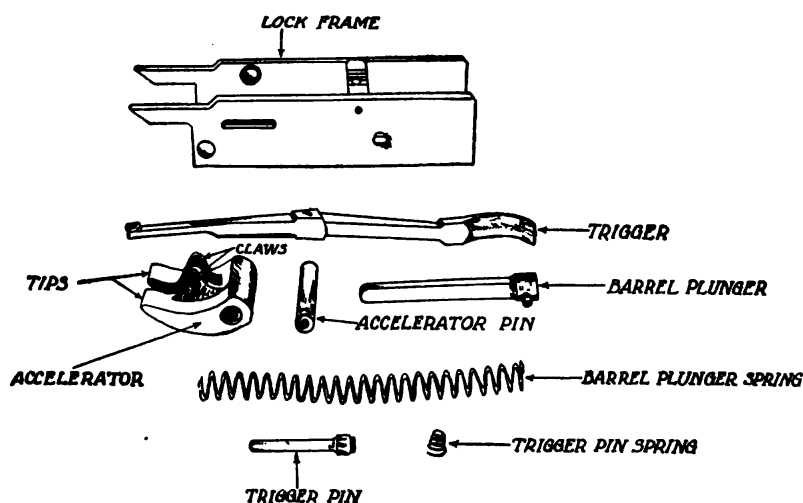

FIGURE 125.—Lock frame group.
**135. Detailed disassembly of lock frame (fig. 125).**—*a.* Grasp the head of the trigger pin between the thumb and first finger of the right hand and remove it to the right. If the pin is too tight to permit its removal in this manner it must be drifted out. Do not remove the trigger pin spring except when necessary.